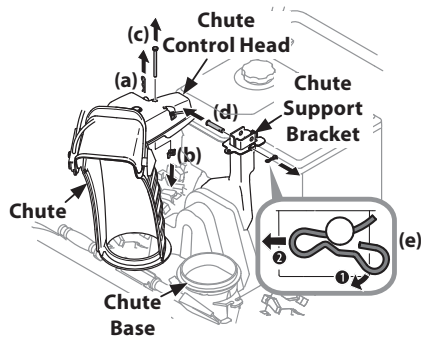

Figure 2-25
1. Remove hairpin clip (a), wing nut (b) and hex screw (c) from chute control head and clevis pin (d) and bow-tie cotter pin (e) from chute support bracket. See Figure 2-25.